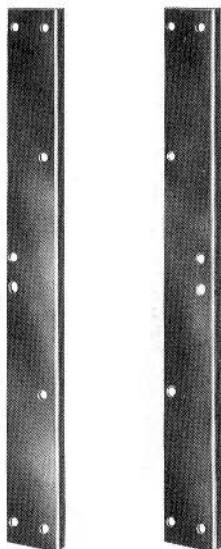

Fig. 31—Auxiliary Leg per ED-95023-70
**6.04** The auxiliary leg per ED-95023-70† (Fig. 31) has two extension leg assemblies used to mount the J86731A, List 4 power plant above the 16-type apparatus mounting.